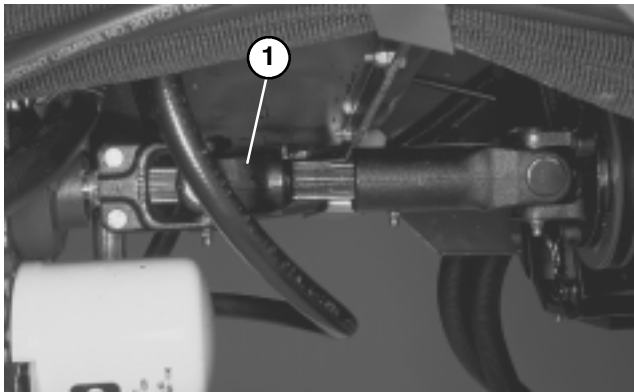

Figure 35
TOWING TRACTION UNIT (Fig. 35 & 36)
1. Loosen and remove capscrews securing the drive shaft to the engine drive coupler. Loosen capscrews clamping drive shaft to transmission (Fig. 35). Remove drive shaft.
5. When towing is completed, reinstall driveshaft as shown in figure 35. The splines are designed to allow assembly only when the two halves of the shaft are properly oriented.